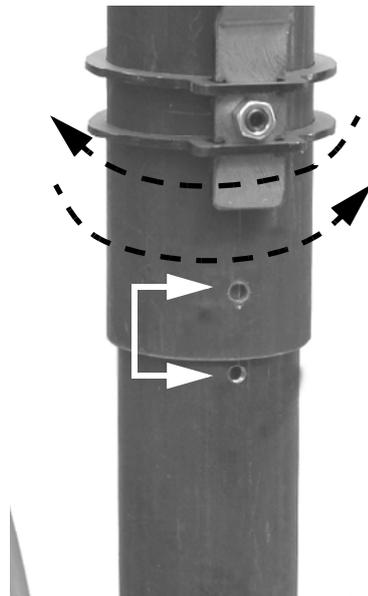
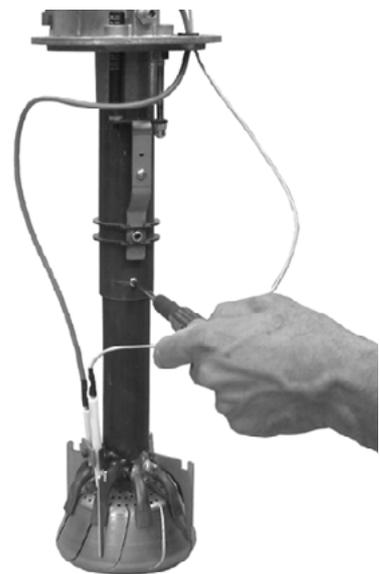

Fig. 15
Fig. 16
- 2 Lower the terminal part of the combustion head, by moving it with a slight circular movement, until the holes will match (Fig. 15) and tight the screw shown in Fig. 16.